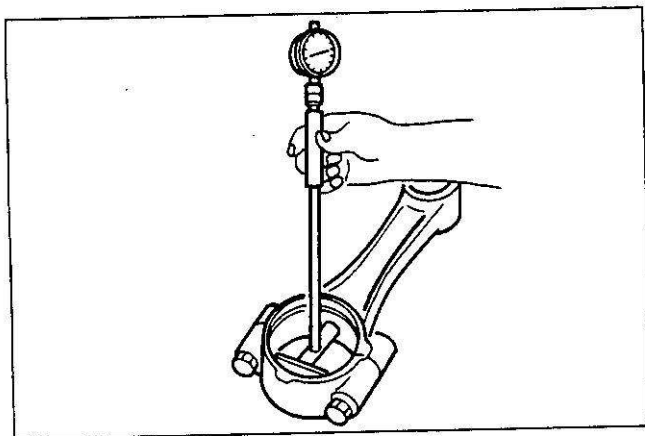

Figure 56. Measuring the Connecting Rod Bearing Inside Diameter
- Bolts (83) to “Specifications” at the end of this section.
- Measure the connecting rod bearing (88) inside diameter, using an inside micrometer (figure 56).
- Remove the bolts (83).
- Remove the connecting rod cap (82) and bearings (86 and 87).